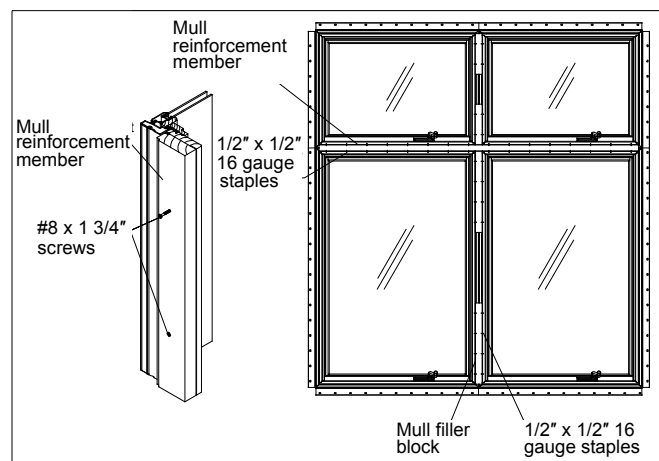

Figure 26
1. Apply mull sealing tape the full length of the head jamb of the lower 2 wide casement assembly ensuring that it is located 1/4" (6) from the exterior edge of the Ultrex frame similar to steps 1 and 5.
2. Attach mullion reinforcement member (W7008) to head jambs of lower unit with #8 x 1 3/4" screws spaced every 12" (305) as shown in illustration 27. Set upper and lower mulled units in the desired configuration (interior facing up). Clamp units together on interior near each end of the mullion (use scrap blocks to protect interior wood frame members). Slide horizontal aluminum mulling pin into nailing fin kerf. Make sure mulling pin is recessed at least 1/4" on each end to allow for sealant application later. Fasten interior wood frame members with 1/2" x 1/2" 16 gauge staples spaced every 4" (102). See figure 26.